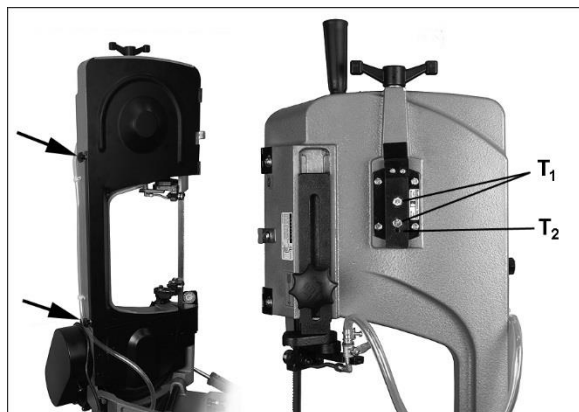

Figure 8-10: blade tracking adjustment
Open the rear guard by removing the two (2) knobs (see Figure 8-10).
Open the rear guard by removing the two (2) knobs (see Figure 8-10). Observe the position of the blade on the wheel. If blade is not adjacent to wheel flange, first adjust the blade tracking according to *sect. 8.9 Blade tracking*.
If blade is not tracking properly, loosen bolts (T₁, Figure 8-10) with 12mm wrench.